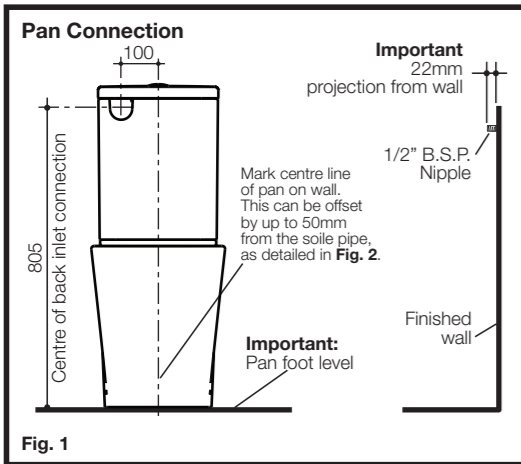
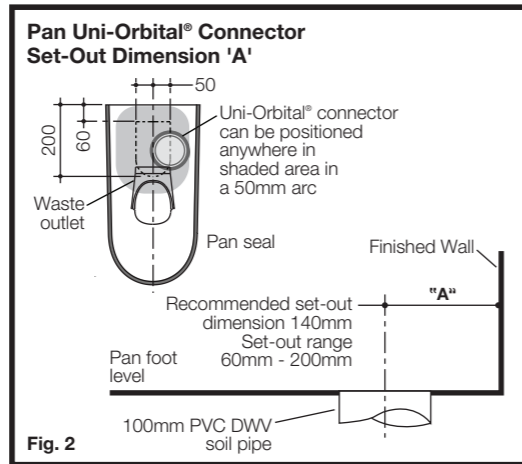
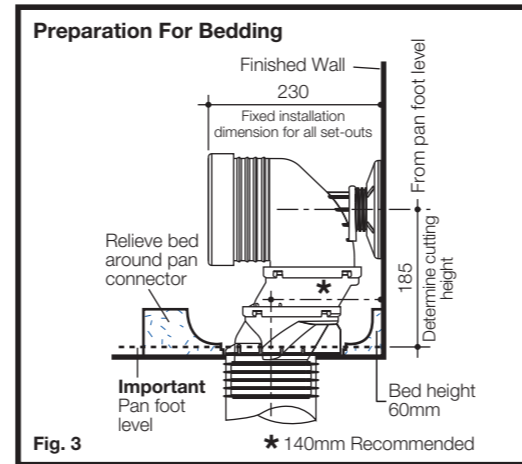
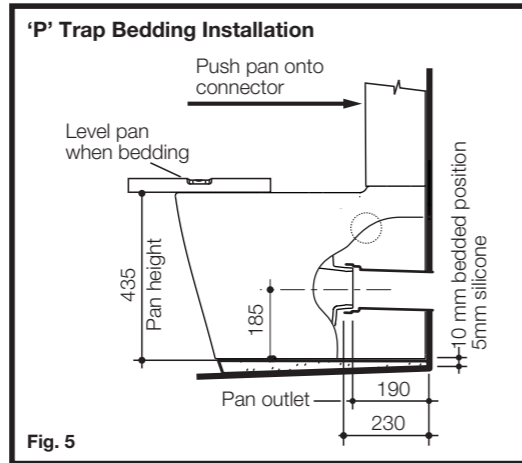

Fig. 1
Fig. 2
Fig. 3
Fig. 5
The Care 660 Cleanflush pan is universal for both 'S' and 'P'-Trap installations as detailed. The recommended set-out for 'S'-Trap installations is 140mm from the finished wall with set-out flexibility for existing soil pipe positions ranging from 60mm to 200mm and 50mm sideways adjustment with the Uni-Orbital® connector supplied, as detailed in Fig. 2.
- 1- Mark centre line of the pan on finished wall, as detailed in Fig. 1. This is to be used as a guide when connecting the pan. The centre line can be offset by up to 50mm from the soil pipe, as detailed in Fig. 2.
- 2- Determine set-out "A" of existing pan connector, as detailed in Fig. 2. Set-out range 60mm - 200mm. Recommended set-out 140mm, as detailed in Fig. 3. For 'P' trap installation see Fig. 5.
- 4- Prepare bedding sand cement mixture 3:1 to depth of 60mm as detailed in Fig. 3. **Note:** Do not fill the foot of the pan with bedding mix or include lime or fast drying cement into the mix, these may cause cracking in the foot of the pan.